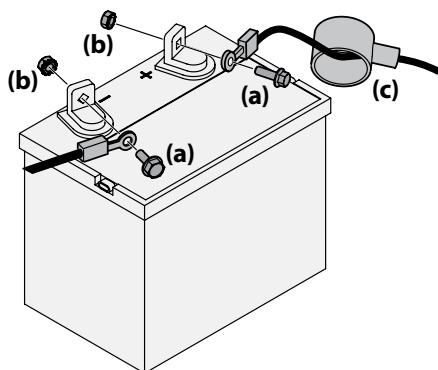

Figure 2-20
1. Remove the plastic cover, if present, from the positive battery terminal and attach the red cable to the positive battery terminal (+) with the bolt (a) and hex nut (b). See Figure 2-20.
3. Remove the plastic cover, if present, from the negative battery terminal and attach the black cable to the negative battery terminal (-) with the bolt (a) and hex nut (b). See Figure 2-20.